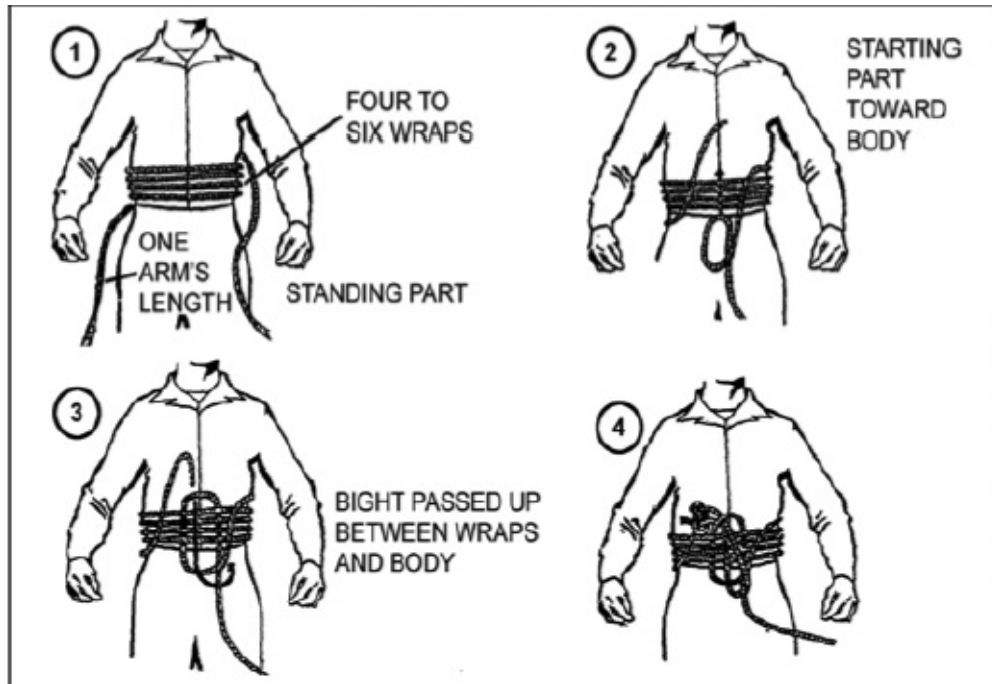

Figure 5-15. Bowline on a coil
- k. **Bowline on a Coil.** This knot (Figure 5-15) secures a climber to the end of a climbing rope. Make at least four parallel wraps around the body, between the hipbone and lower set of ribs. Keep all coils free of clothing, touch and are tight enough to ensure that a fist cannot be inserted between the wraps and the body. Three distinct coils show through the bight of the bowline. The rope coming off the bottom of the coils is on the right side, forward of the hip and forms the bight and the overhand knot. The rope coming off the top of the coils is on the left side, forward of the hips and forms the third and final coil showing through the bight of the bowline. Bowline is centered on the gig line and secured with an overhand knot with a minimum